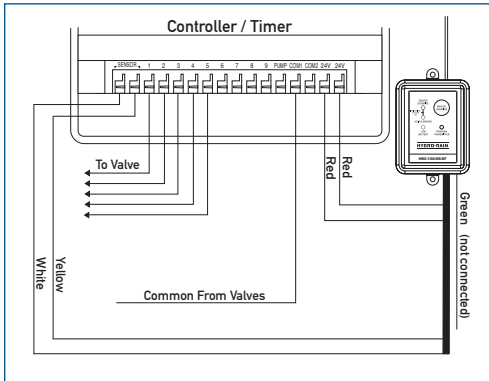

Figure 3: Wiring sprinkler timer with sensor terminals without booster pump
2. Check your timer for pre-installed sensor terminals. If the timer does not have sensor terminals, proceed to step 3. If it does, take the wire from rain/freeze receiver and connect the white (common) wire to one sensor terminal and the yellow (normal closed) wire to the other. (See Figure 3) Skip to step 5.
2. Check your timer for pre-installed sensor terminals. If the timer does not have sensor terminals, proceed to step 3. If it does, take the wire from the rain/freeze receiver and connect the white (common) wire to one sensor terminal and the yellow (normal closed) wire to the other. (See Figure 3) Skip to step 5.